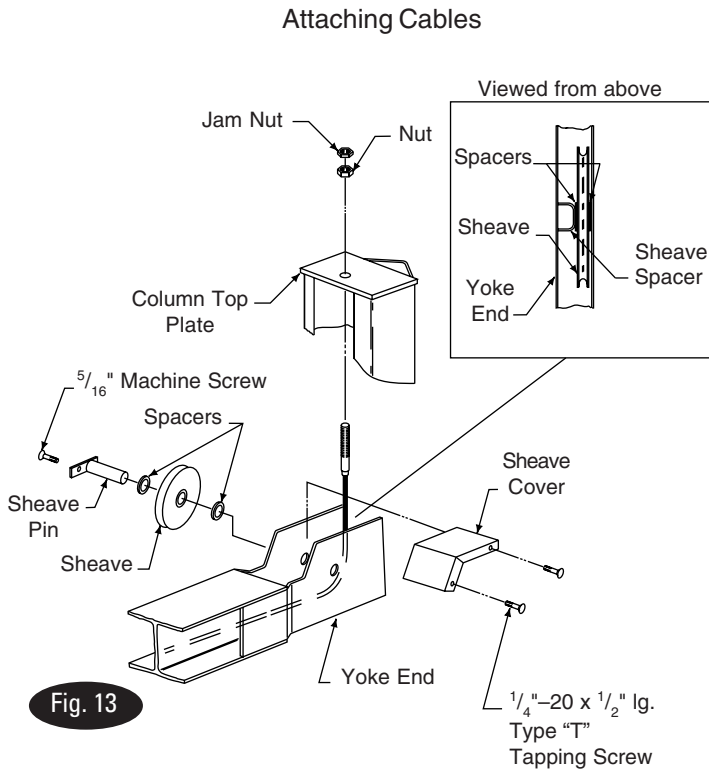
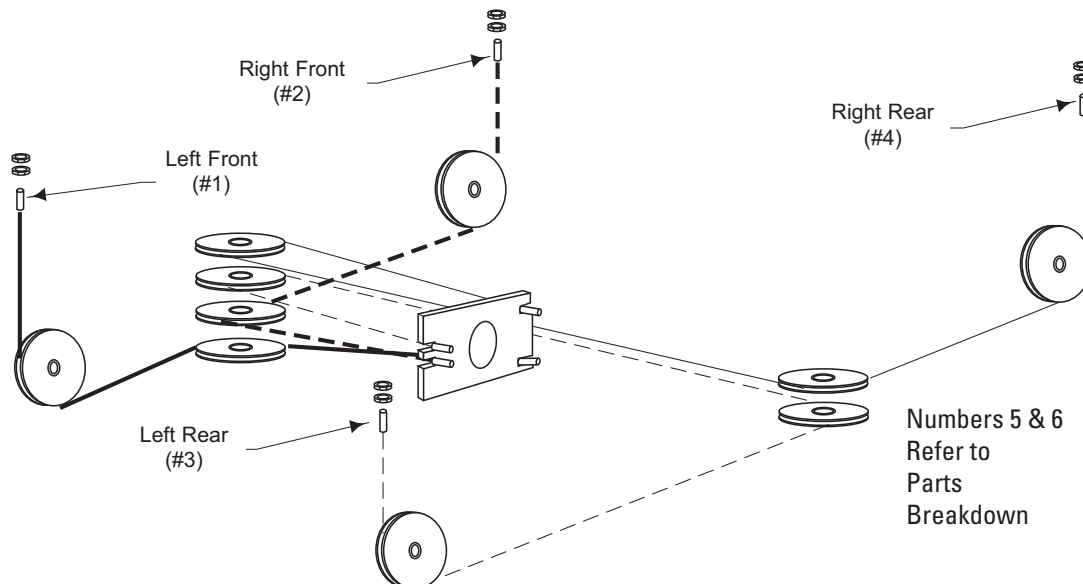

Fig. 13
Fig. 14
Install yoke end sheaves, Fig. 13. Retain with sheave pin and $\frac{5}{16}$ " pan head machine screw, Locktite the screw threads. Attach each cable to column top plate with nut and jam nut. Install sheave covers on each yoke end, Fig. 13. Roping diagram shows a view of completed roping, Fig. 14.
Adjust all cables with lift fully lowered. Loosen cable jam nut. Tighten adjusting nut on cable stud on top of column until yoke end is raised $\frac{1}{4}$ ". Back off adjusting nut one (1) turn. Tighten jam nut. Do this for all four (4) cables. See Fig. 13.